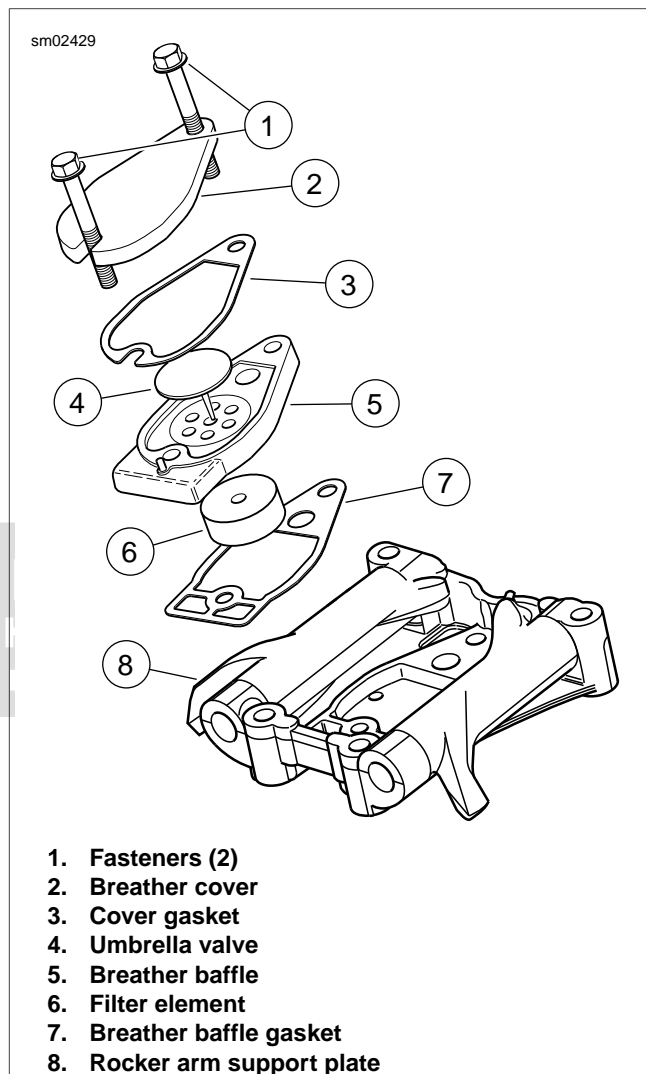

Figure 3-68. Breather Assembly
1. See Figure 3-68. Remove two fasteners (1) from the breather assembly cover (2) and remove breather assembly from rocker arm support plate (8).
2. Remove the breather cover and cover gasket (3). Discard gasket. Remove breather baffle (5) and breather baffle gasket (7). Discard gasket. Pull filter element (6) from bore on underside of breather baffle. Pull umbrella valve (4) from hole at top of breather baffle. Discard both filter element and umbrella valve.
2. See Figure 3-68. Set a straightedge diagonally across the length of the breather cover (2) intersecting the opposite corners of the gasket surface. Slide a feeler gauge beneath the straightedge to check the breather cover for warpage. Repeat the step checking the opposite diagonal. Discard the breather cover if any low spot exceeds 0.005 in. (0.13 mm).
3. Using method outlined in previous step, inspect the breather baffle (5) gasket surface for flatness. Discard the breather baffle if any low spot exceeds 0.005 in. (0.13 mm).
1. See Figure 3-68. Insert stem of **new** umbrella valve (4) through center hole at top of breather baffle (5). Carefully pull rubber bead on stem through hole in baffle. Use denatured alcohol or glass cleaner to lubricate stem, if necessary. Verify that rubber bead is pulled completely through hole and resides on bottom side of baffle.
2. Press **new** filter element (6) into bore at bottom of baffle. Hole in filter element accommodates umbrella valve stem.
3. Place breather baffle gasket (7) on a clean flat surface.
- a. Aligning holes, place breather baffle (5), cover gasket (3) and breather cover (2) on top of breather baffle gasket.
- b. Slide two fasteners (1) through stackup to keep assembly together until time of installation.